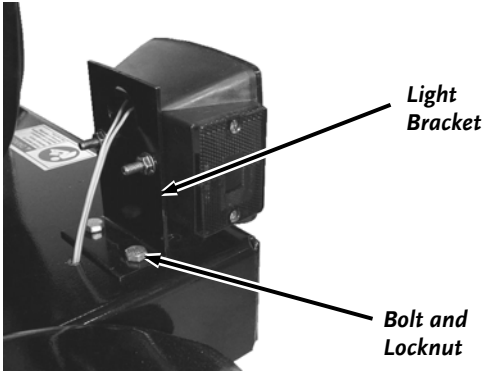

Figure 64
7. Attach both Light Brackets to the Frame with Bolts and Locknuts with two 1/2" wrenches (**Figure 64**).